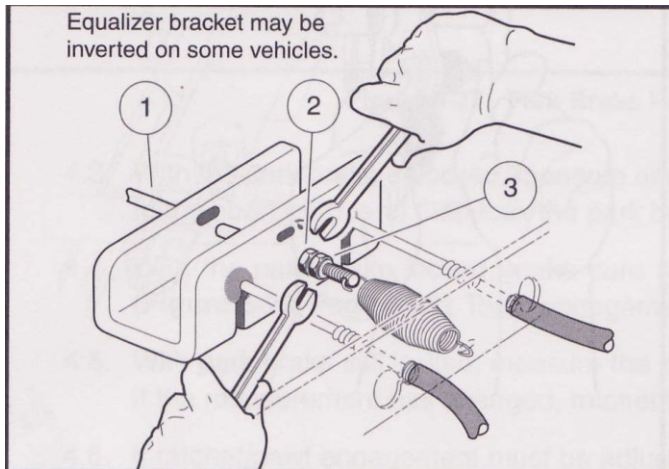

Figure 5-23
4. To provide slack in the brake cables, loosen the equalizer retaining nuts (2 and 3) on the equalizer rods (1) (Figure 5-23).